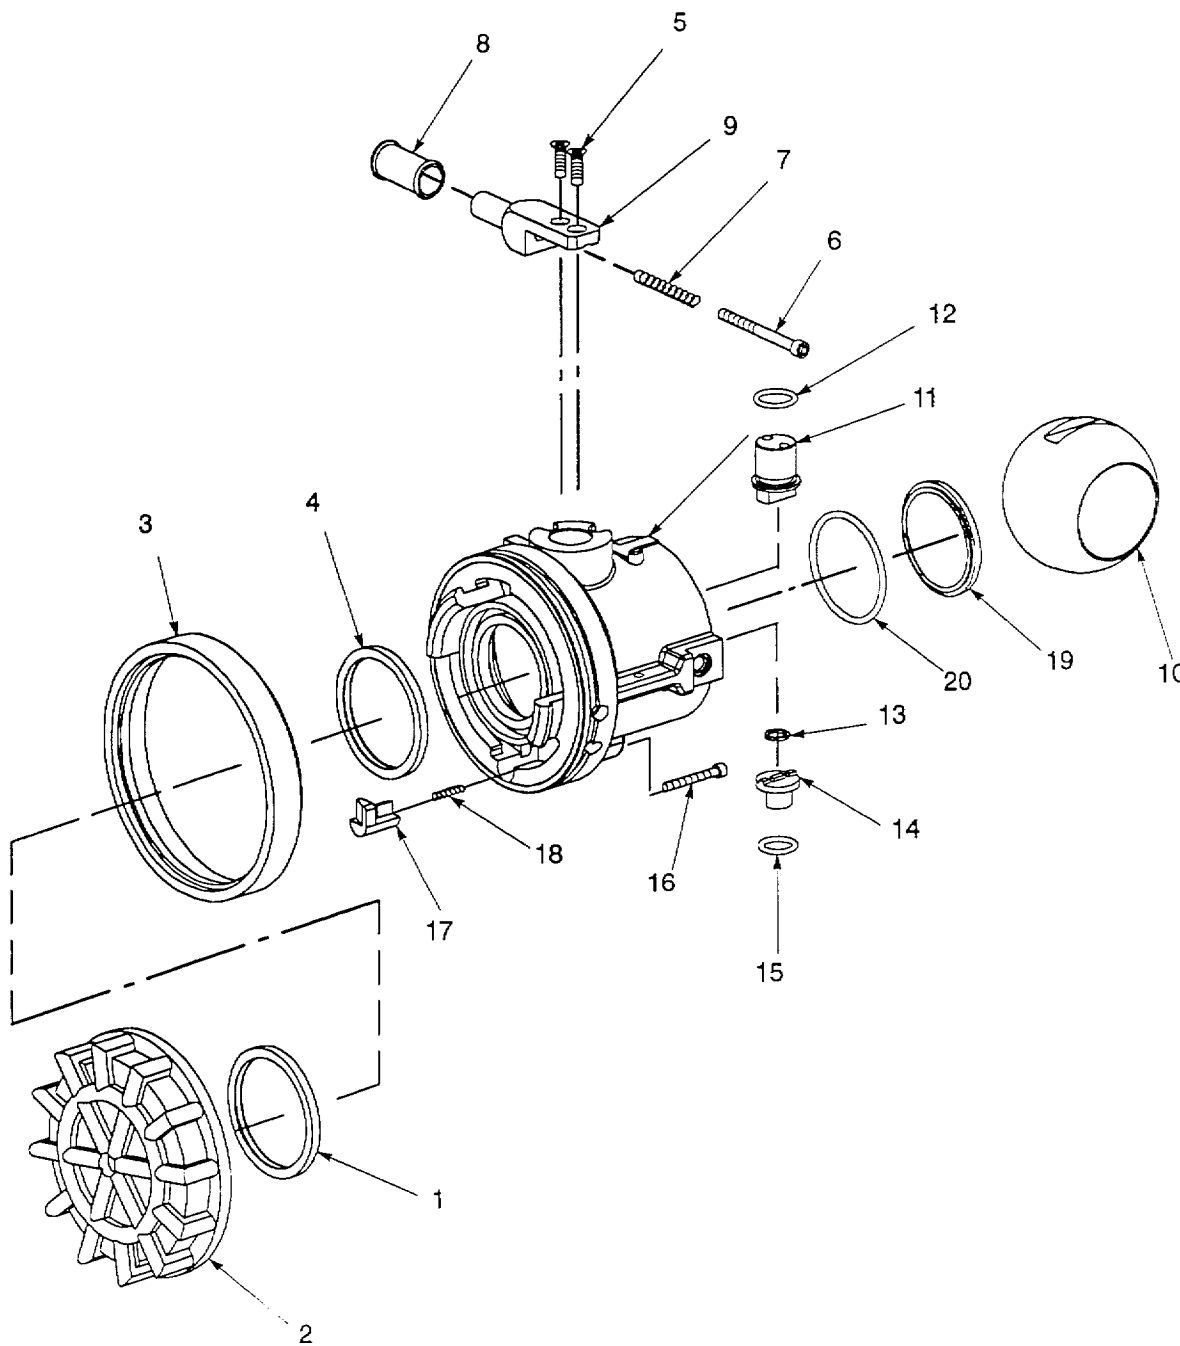

Figure 4-10. Valved Dry Break Coupling Disassembly.
b. Disassembly. Refer to figure 4-10.
- (1) Disconnect dust cap (2) from body (21).
- (2) Remove seal (1) from dust cap (2).
- (3) Remove bumper (13) and seal (4) from body (21).
- (4) Remove two self-locking screws (5) from arm (9). Remove arm and attached parts from body (21).
- (5) Remove screw (6), grip (8) and spring (7) from arm (9).
- (6) Remove ball (10) from back of body (21).
- (7) Remove stem (11) and attached preformed packing (12) from body (21).
d. Inspection. Refer to figure 4-10.
- (1) Inspect body (21) for cracks, scratched or damaged sealing surfaces, damaged locking lugs and corrosion.
- (2) Inspect dust cap (2) for cracks and damaged or missing locking lugs.
- (3) Inspect stop pin (14) for cracks, wear and scoring.
- (4) Inspect ball (10) for corrosion, flat spots and wear.
- (5) Inspect lock out pin (17) for wear.